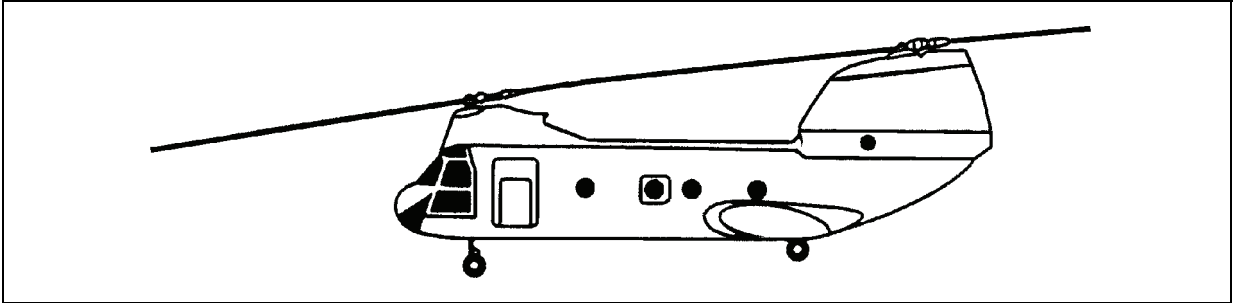
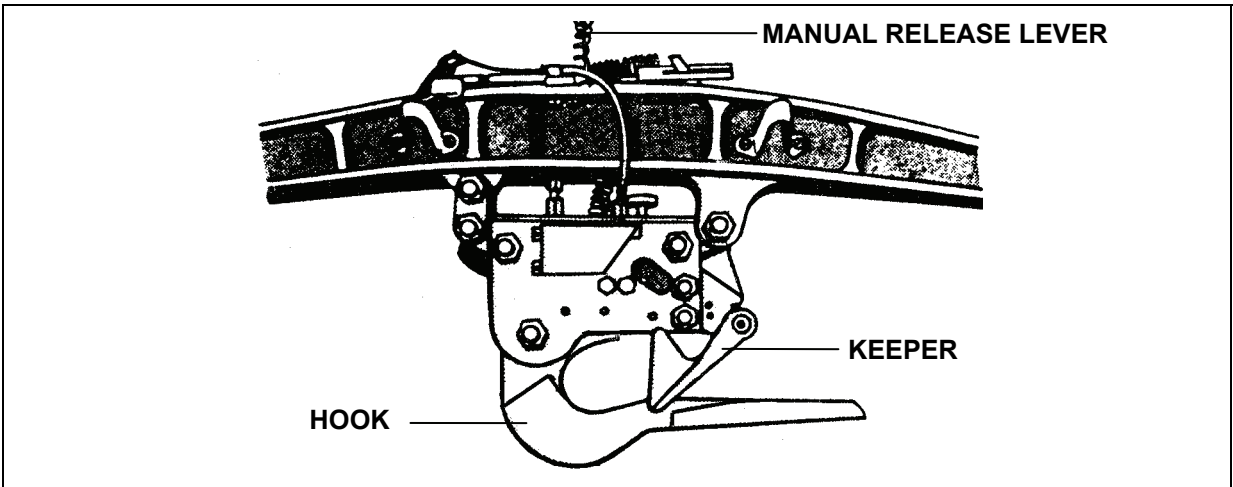

Figure 2-10. CH-46 Sea Knight
Figure 2-11. CH-46 Cargo Hook System
- CH-46A/D/E.** The CH-46A/D/E Sea Knight (Figure 2-10) is a twin engine, tandem rotor helicopter manufactured by the Boeing Helicopter Company. The primary mission of the CH-46 is to rapidly deliver combat troops, support equipment, supplies, and perform vertical replenishment (VERTREP). The cargo hook maximum capacity is 10,000 pounds (Figure 2-11). The AC6000500 Mod-1 pendant may be used with this helicopter. The cargo hook is normally opened electrically or manually by the aircrew. The manual release cable is mounted on top of the cargo hook and is only accessible to the aircrew.